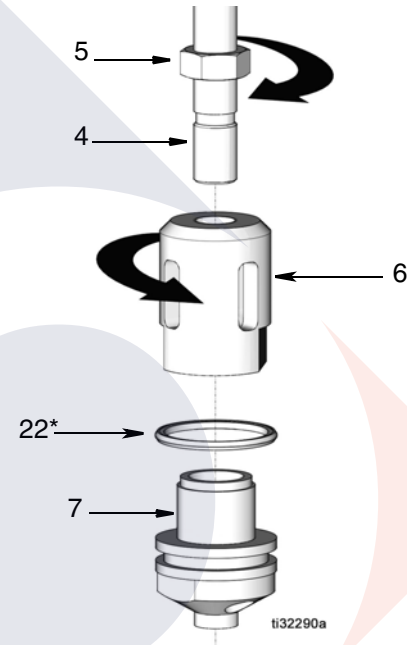

FIG. 14
4. Replace piston seal (22\*) on valve housing piston (7) (FIG. 14).
5. Screw the connecting rod (4) into the valve housing (6) and adjust the ball travel as instructed in **Check Valve Adjustment** on page 13 Tighten nut (5) to 60 ft-lb (81.35 N•m) (FIG. 14).